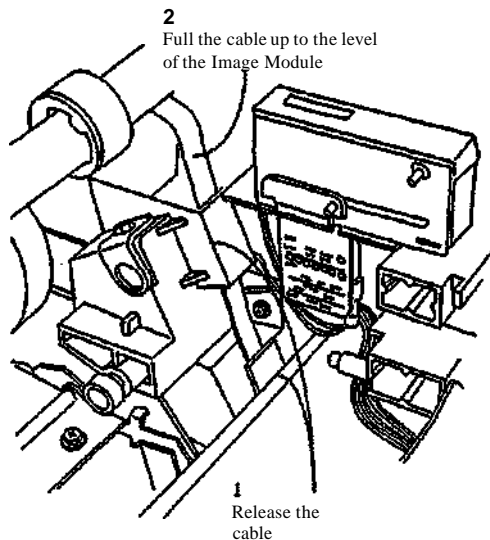

Figure 6. Preparing the Video Cable
12. (Figure 6): Continue to pull the Video Cable through the hole after releasing it from the cable guides.